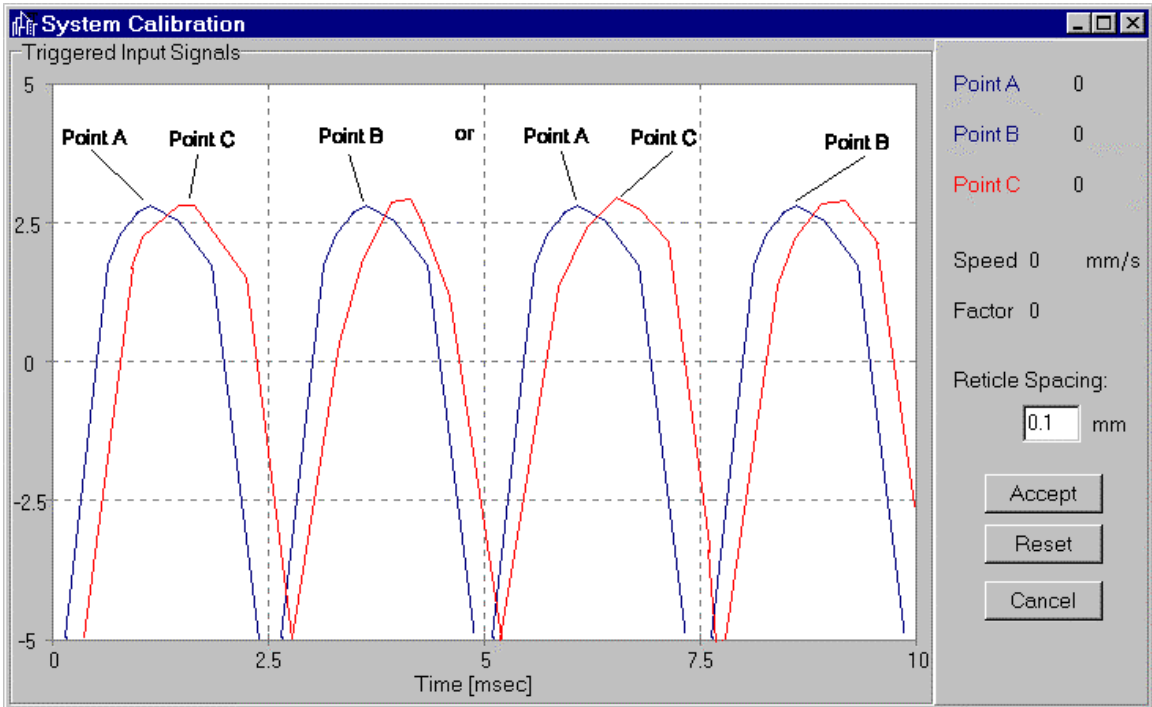

Figure 4.4 – Simulated Calibration Data
Most of this is done automatically by the software. By following the calibration procedure given below, you will reach a dialog box similar to the one shown in Figure 4.4. You will need to enter the correct reticle spacing in the space on the right. The blue and red signals indicate the signals from the two different photodiodes. Each peak
corresponds to a mark on the reticle. The blue signal corresponds to the lead photodiode. It is important that you can identify signals caused by the same mark on the reticle. Find the first blue peak from the left. The top of this peak is Point A. The very next blue peak moving to the right is Point B. This first red peak after Point A is Point C. It is crucial that you can identify what these points are or the spacing factor will be calculated incorrectly. Once you see how the first set is found, any set of three points determined in the same way will work. Just be sure that you pick a point A first and find the other two relative to this point. See Figure 4.4 for reference.
11. Bring up the Hardware Setup Dialog again. This time click on the Calibrate Photodiodes button. A dialog will come up indicating that the software is waiting for a trigger. If the window shown in Figure 4.4 comes up before you move the slide, you will need to press cancel and reduce the triggering sensitivity in the Hardware Setup Dialog.
13. If the hardware was triggered, a window such as Figure 4.4 will come up automatically. If it was not, cancel the dialog indicating that the software is waiting and increase the triggering sensitivity in the Hardware Setup Dialog. It may take a few tries to get the triggering sensitivity correct. Repeat these steps while adjusting the speed you move the reticle until you have several peaks visible in the window as shown in Figure 4.4.